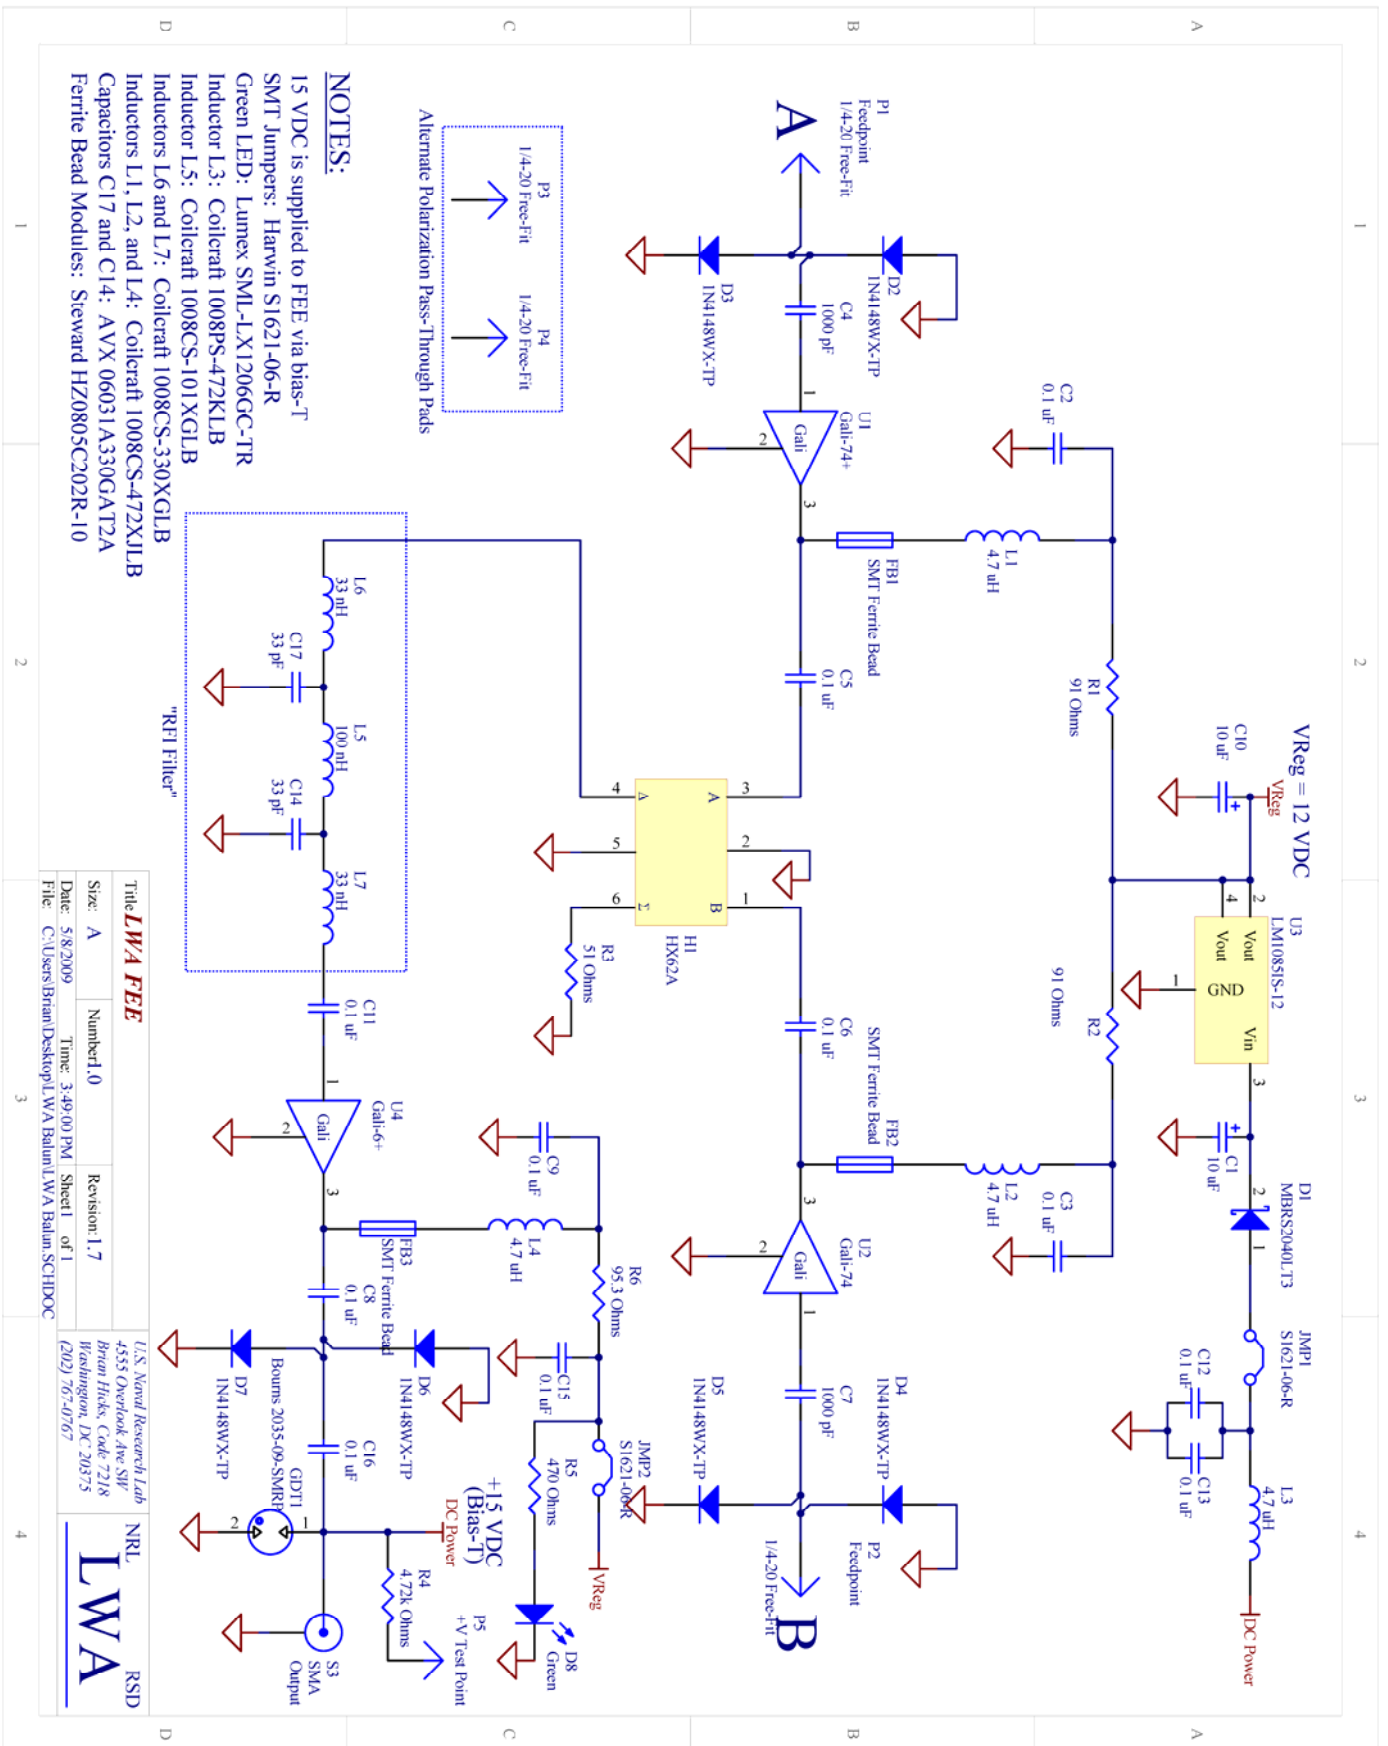

Figure 1 – Updated Schematic of the LWA FEE (Version 1.7)
Testing of FEEs that return from the site is done using the LWA FEE Test Fixture, a power supply, and a spectrum analyzer. The diagram in Figure 1 shows how to set up the testing environment for assessing the spectral response of an FEE. Input voltage is supplied by a tabletop power supply fed into a bias tee, while a broadband radio signal (RF In) is supplied by a spectrum analyzer passing through the FEE board pathway, and its response re-entering the spectrum analyzer via the bias tee connection (RF Out).
To start the diagnosis and repair of a front end, set up a work station according to the diagrams in Figure 1 and 2. The spectrum analyzer should be set at a center frequency of about 100 MHz with a span of 200 MHz to completely cover the science band of the LWA. Next, it is important to calibrate the spectrum analyzer to ensure the test fixture supplies accurate information of FEE performance before, during, and after repairs. Start by removing all attenuators on the RF output from the spectrum analyzer and reconnect the cable without attenuation. Next disconnect the two SMA-cables from the test fixture and connect them together using a female-female SMA adapter, this would be the ‘THROUGH’ orientation of the system. Proceed through the magnitude transmission calibration instructions on
**Figure 1:** Diagram of LWA FEE Test Fixture and required peripheral diagnostic equipment. Here DC voltage is indicated by black lines, the input signal is on blue lines, and FEE response follow red lines.
**Figure 2:** Lab implementation of the diagram seen in Fig 1. Starting on the left is the DC input power supply with bias tee connector sitting on top of it, Spectrum analyzer showing a trace memory bandpass, and on the right is the LWA FEE Test Fixture with the ‘Control’ board connected. For illustrative purposes the test enclosure is open, however in practice the enclosure would be closed to prevent RF-leakage interfering with testing.
**Figure 3:** Spectral response of an optimally performing FEE board as measured using the set-up in Fig. 1. Coverage of the LWA FEE bandpass is displayed at a center frequency of 100 MHz with a span of 200 MHz. In this particular case, 47 dB of attenuation is applied between the spectrum analyzer and FEE fixture.
A schematic representing the most recent revision (1.7) of the LWA FEE is given in Figure 1.